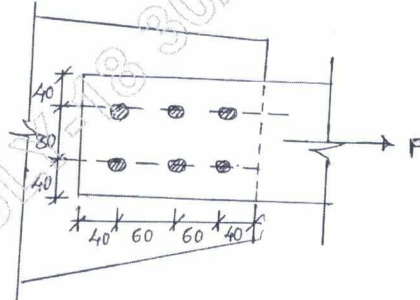

Fig. Q5 (b)
- b. Determine the strength of the plate 160mm × 10mm thick, connected with bolts subjected to a force as shown in Fig. Q5 (b). Use M18 dia bolts, take  $f_y = 250 \text{ N/mm}^2$ ,  $f_u = 410 \text{ N/mm}^2$ . (14 Marks)